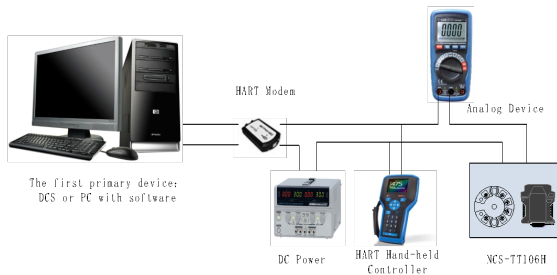

Figure 3.1 4~20mA compatible mode
**4~20mA compatibility mode (as shown in Figure 3.1)**